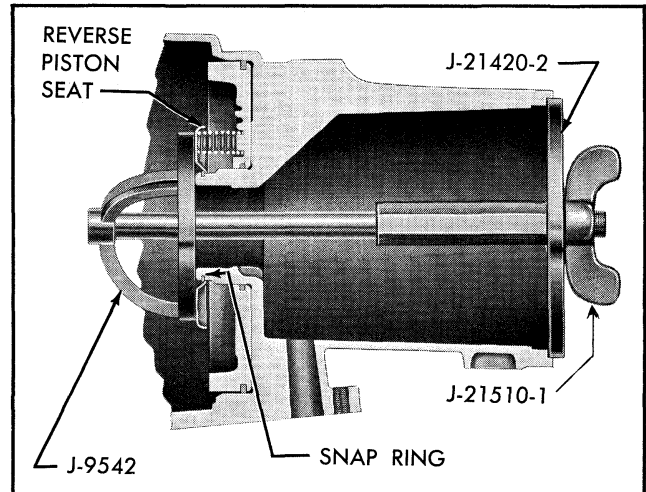

Fig. 7B-63 Compressing Reverse Piston Return Springs
7. With transmission in horizontal position, apply compressed air to reverse piston apply port to force out reverse piston (Fig. 7B-64).